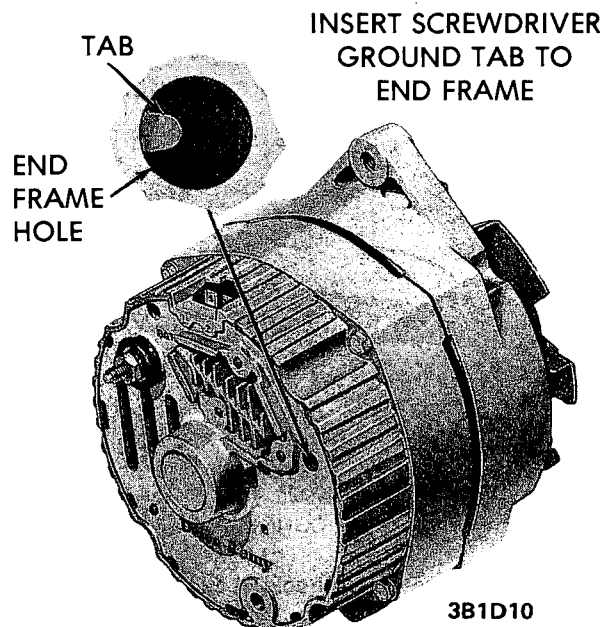

Figure 1D-10 Grounding Field Windings
4. If voltage is below 15.5 volts, connect the carbon pile as shown in Figure 1D-9.